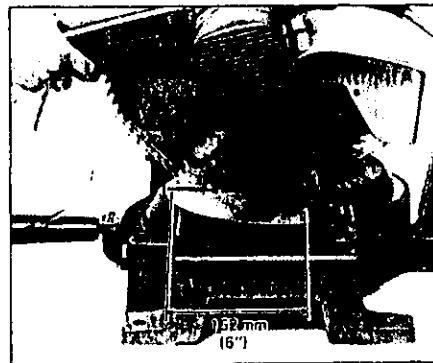

Fig. 5
* Is the miter clamp grip tightened firmly?	Fig. 5